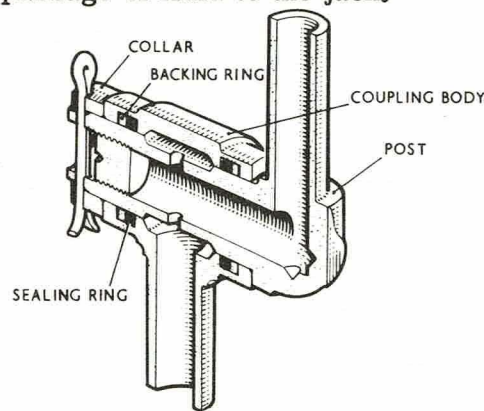

Fig. 3 Section through coupling
3. Each tubular coupling post, sealed by a screwed plug soldered in position, is linked by radial holes to an annular groove in the post, which coincides with an annular groove in the coupling body (fig. 3). Additional grooves in the body house sealing rings and backing rings to prevent the leakage of fluid. The jack attachment point of each unit consists of a flanged coupling post from which a